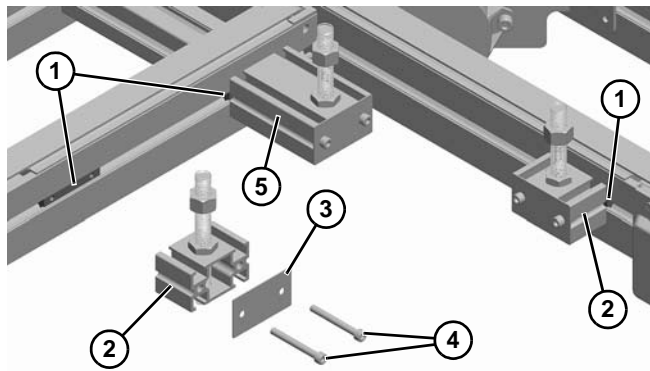

Figure 75
4. Install drop-in tee bars (**Figure 75, item 1**) in conveyor rail channel.
5. Loosely fasten 1.5" support tube assemblies (**Figure 75, item 2**) to conveyor rail with cover (**Figure 75, item 3**) and socket head screws (**Figure 75, item 4**) as shown.
6. Repeat for 4.5" support tube assembly (**Figure 75, item 5**).